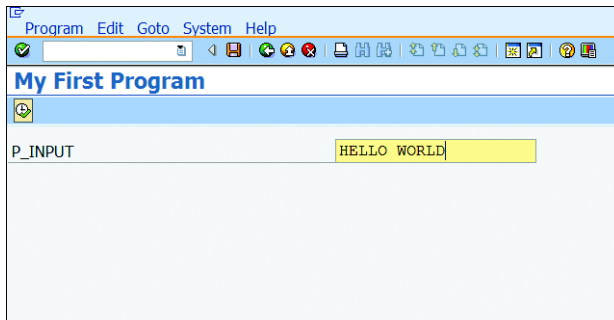

Figure 4.21 Selection screen
9. In the code, you're using two statements—PARAMETERS and WRITE. The PARAMETERS statement generates a selection screen (see Figure 4.21) with one input field. The input field will be of TYPE c with LENGTH 20, so you can input up to twenty alphanumeric characters.